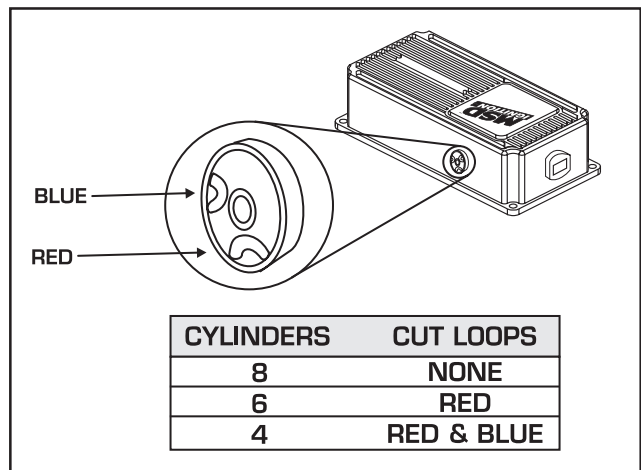

Figure 1 Cylinder Select Loops.
2. There are two wire loops, a Red and Blue loop. Refer to the chart in Figure 1 to determine which loop to cut for your application.